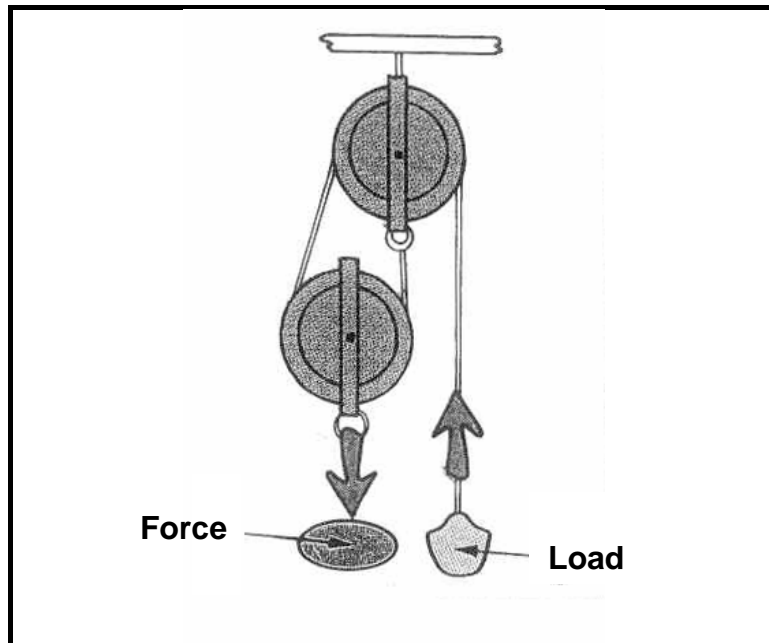

FIGURE 1.6
- 1.16 What is the name of the series of pulleys with attached rope or chain, as shown in FIGURE 1.6?